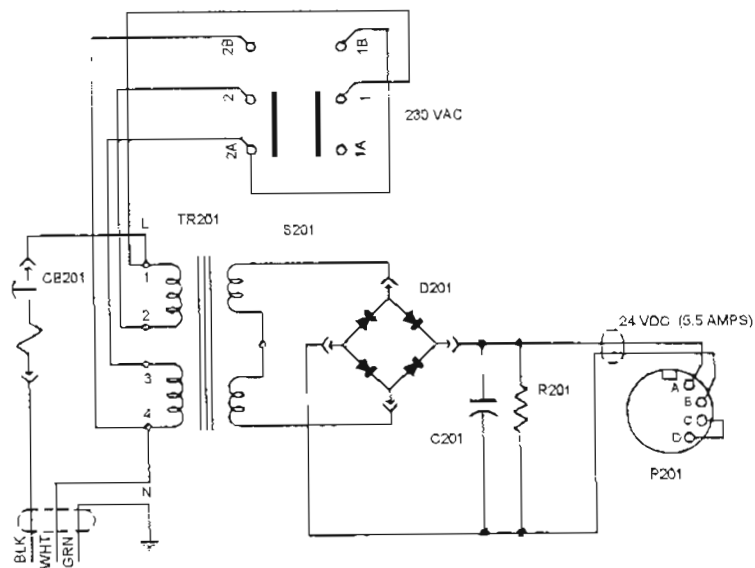

Figure 3-15. Power supply schematic.
e. Refer to power supply schematic (fig 3-15).